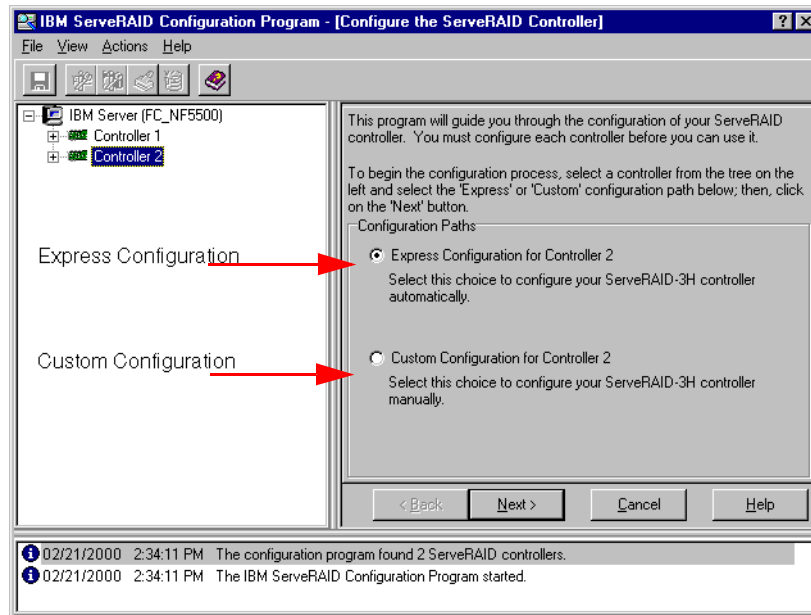

Figure 30. Configuration mode
- *Configuration mode* — Multiple panels of instructions will prompt the user to configure arrays, logical drives and hot spares. Figure 30 on page 84 shows an example of configuration mode.
The configuration mode has two configuration paths as shown in Figure 30.